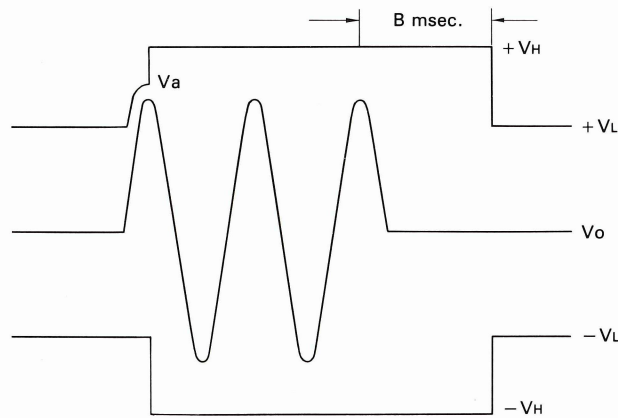

Fig. 15 Waveforms when HIGH-ON works
After HIGH-ON circuit is activated, the  $V_H$  level is maintained for (B) msec by the RC time constant to prevent the transistors from misoperating and from generating  $V_L$ - $V_H$  switching noise in the high frequency range. (Ref Fig. 15) The voltage readings of the circuit when it is working have